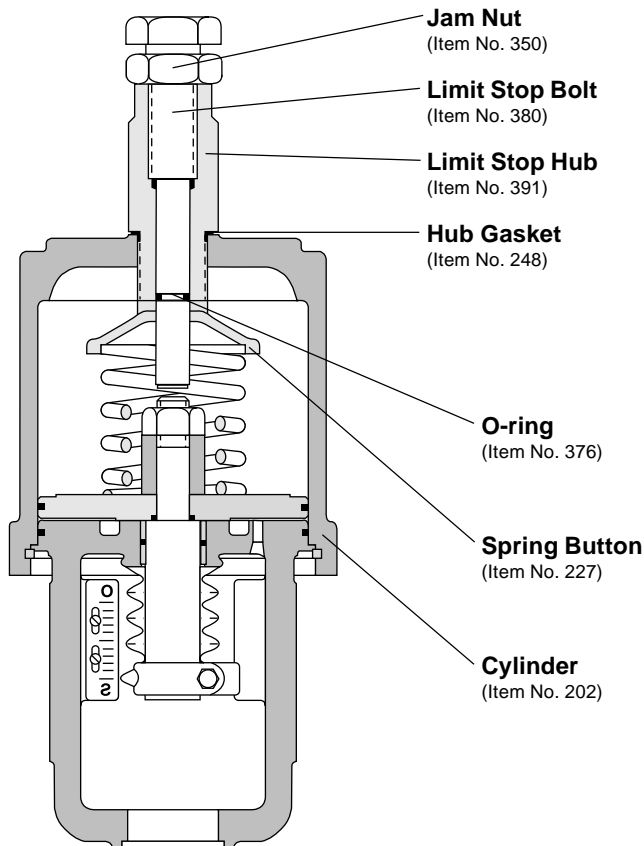

Figure 6: Push-only Limit stop
1. Loosen the limit stop jam nut (see Figure 6).
Refer to Figure 6:
Refer to Figure 6 and proceed as follows: